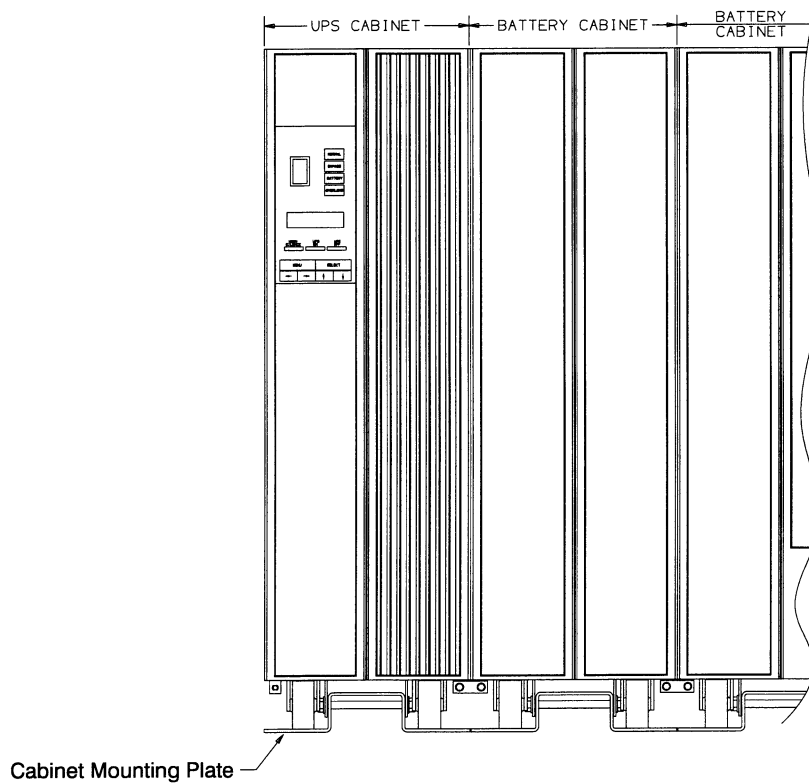

Figure 8. Front View of the Plus 12 UPS
- Position the cabinets into the approximate final operating position with the battery cabinets to the right of the UPS cabinet as shown in Figure 8.